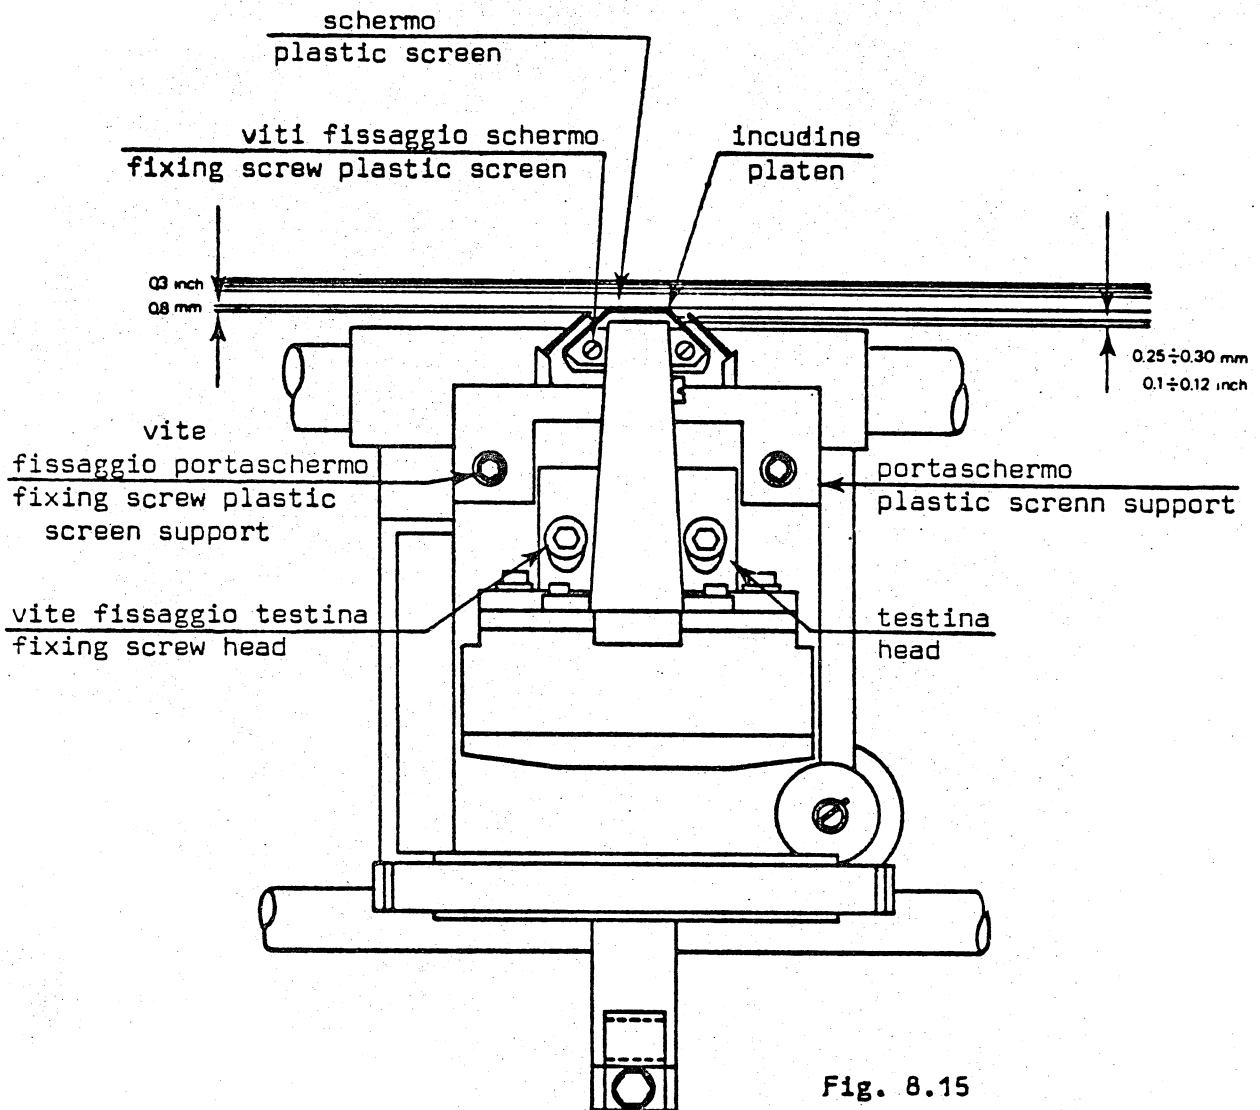

Fig. 8.15
- Loosen the fixing screws of the screen, screen support and head (fig. 8.15).